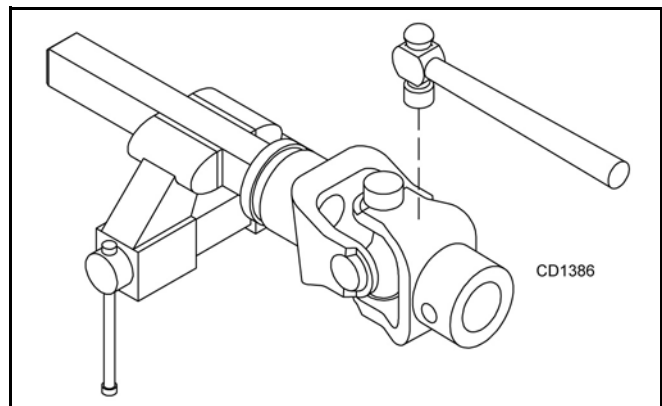

Figure 15
2. With snap rings removed, support drive in vise, hold yoke in hand and tap on yoke to drive cup up out of yoke. See Figure 15.